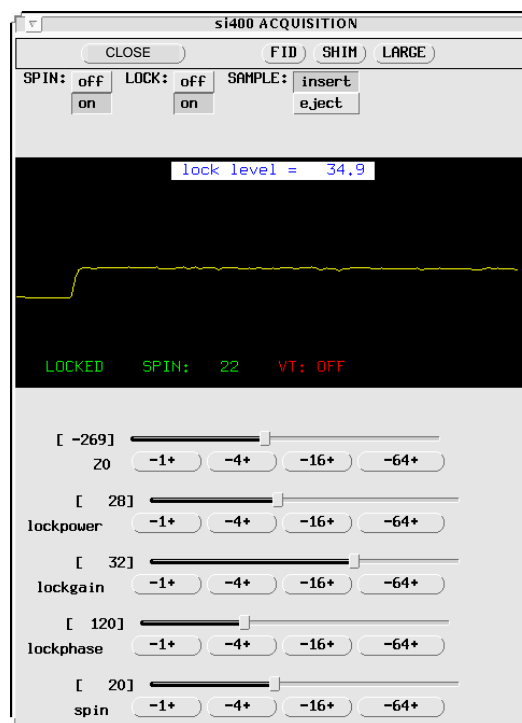

Figure 33. Spin Information in LOCK Display (*acqi* Program)
- In the LOCK display of the Acquisition window (*acqi* program), the actual spin rate is shown below the lock signal (in green type if regulated, in yellow if not regulated, or in red if off), see Figure 33.
The LOCK display appears with the following spin-related information, see Figure 33: